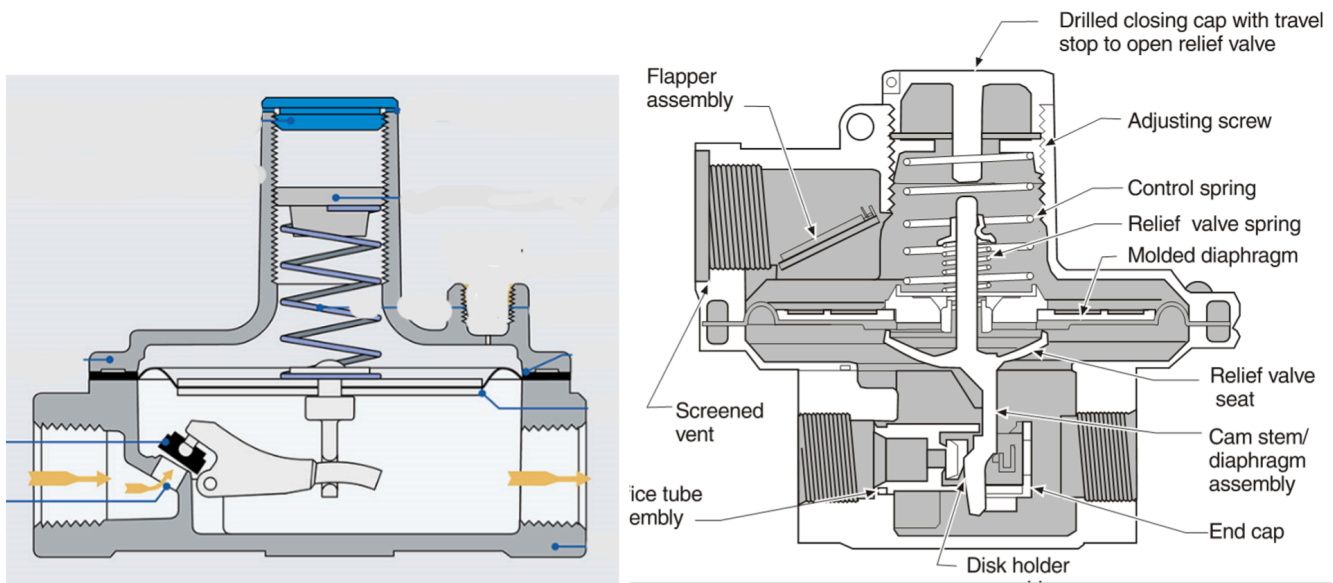

Figure 30. Lever and cam step regulators
Service, high and line pressure regulators typically have to operate with a greater the difference in pressure between the inlet and outlet of a regulator. These conditions will require a larger diaphragm to maintain accuracy and lockup. The similar result is obtained by using a lever or a cam stem to multiply the force produced by the diaphragm. Lever and cam stem controlled (Figure 30) regulators provide increased force necessary for lockup against higher inlet pressures. The extra mechanical force also keeps the disk in a stable position, thereby opposing tendencies of the disk to cycle or buffet.
- Figure 30. “Lever and cam step regulators”.